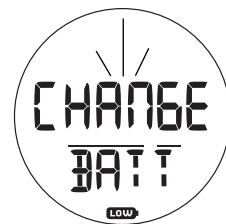

Fig. 4 - LOW BATTERY ALARM
- If the voltage decreases to the Alarm level (2.50 volts), the Battery icon will flash and the message CHANGE BATT will flash (Fig. 4) for 5 seconds, then operation will revert to Watch Main Time. The AMPHOS would then only operate in Watch modes until the Battery becomes completely depleted.